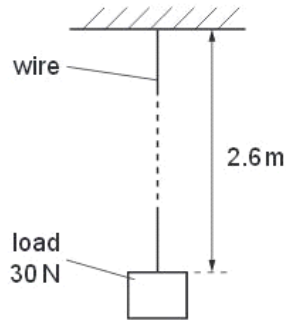

Fig. 4.1
- (b) One end of a metal wire of length 2.6m and constant area of cross-section $3.8 \times 10^{-7} \text{ m}^2$ is attached to a fixed point, as shown in Fig. 4.1.